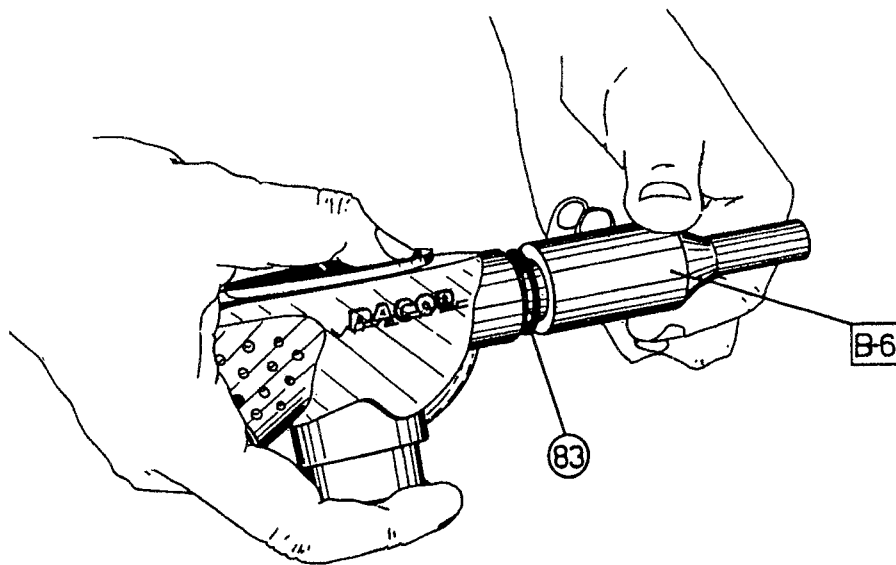

FIG. 7
13. Fit the O-ring (83) in its corresponding seat, with the help of the special tool (B-6). (FIG. 7)